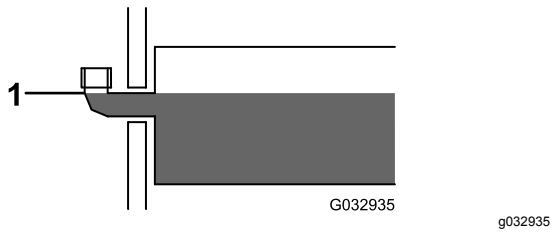

Figure 38
3. Remove the fill cap from the hydraulic reservoir (Figure 38).
4. Slowly fill the reservoir with BOSS high-performance hydraulic fluid to the bottom of the fill elbow (Figure 38).